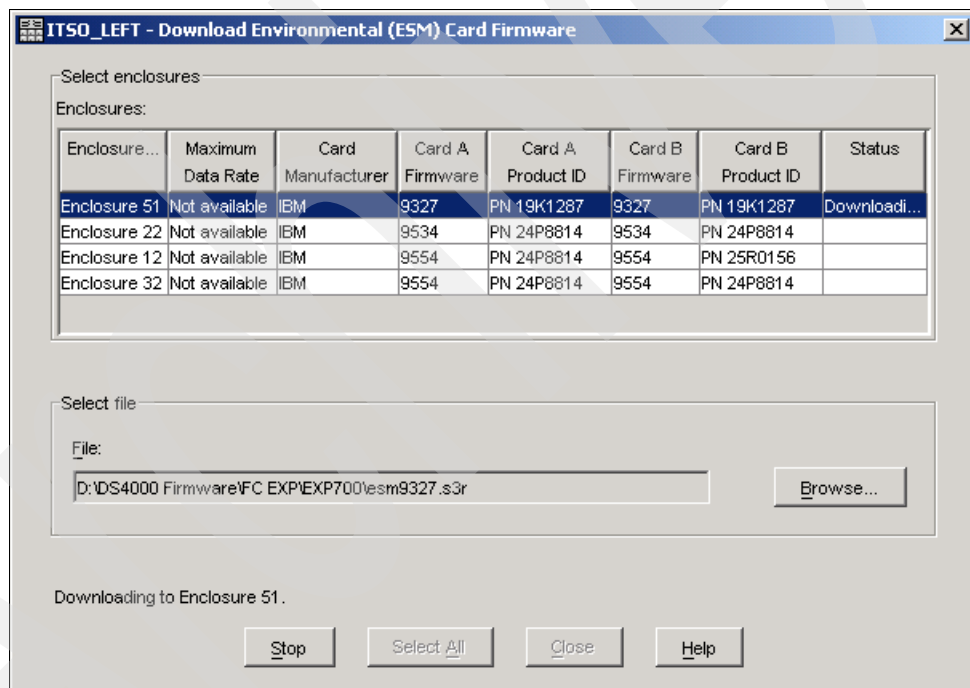

Figure 9-15 Download ESM firmware dialog
2. The Download Environmental (ESM) Card Firmware main window is displayed (see Figure 9-15).